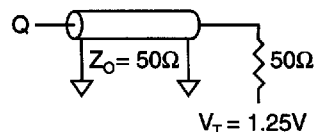

Figure 1
Output load .....	See Figures 1 and 2
5. Test conditions as specified with the output loading as shown in Figure 1 unless otherwise noted.